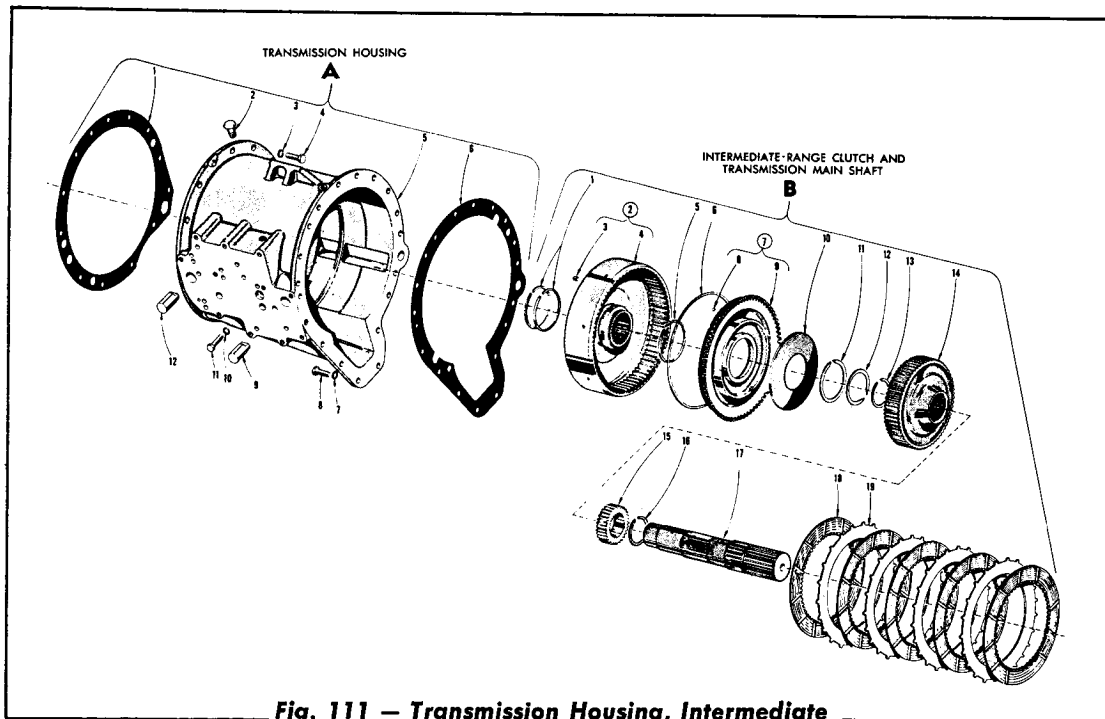
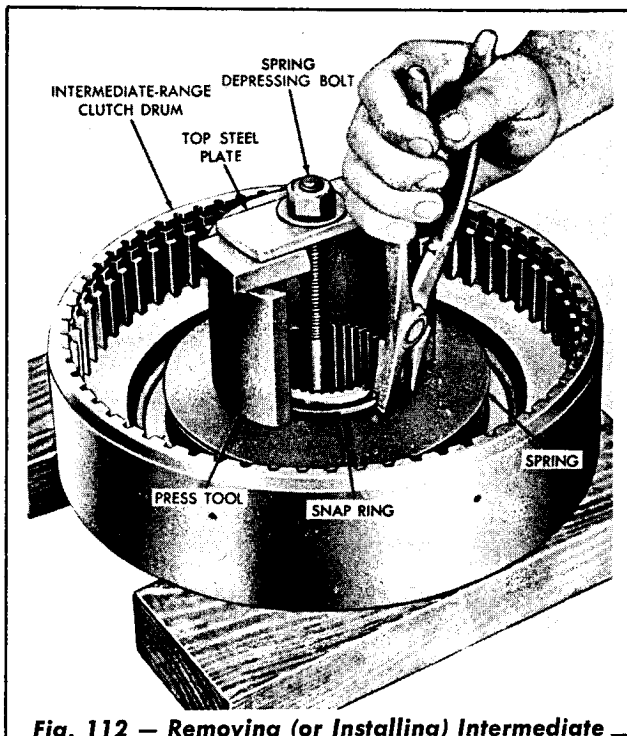

Fig. 111 — Transmission Housing, Intermediate Range Clutch, and Transmission Main Shaft — Legend
Fig. 112 — Removing (or Installing) Intermediate Range Clutch Snap Ring
| 24 | Bushing — Clearance with Transmission Main Shaft — | 0.010 in. Maximum. (See Item 17, Fig. 111) |
All items, except 1 through 11, Fig. 111, are removed in Par. B, in this Topic.
2. Intermediate Range Clutch and Transmission Main Shaft, Disassembly (Fig. 111)
- a. Remove the two hook type seal rings (1) from the intermediate clutch drum (4).
- b. Place the intermediate range clutch drum assembly on wooden blocks (Fig. 112). Place a steel plate, similar to the one shown in Fig. 112, under the clutch drum. This plate, and the one shown in Fig. 112, must have a $\frac{1}{2}$ " hole drilled through the center for the spring depressing capscrew. Place a press tool on the spring (Fig. 112). Install a capscrew and nut through the bottom steel plate (not shown), the press tool, and the top steel plate. Tighten the nut to depress the spring (Fig. 112).
Refer to Fig. 111 for wear limits.
4. Intermediate Range Clutch and Transmission Main Shaft, Assembly (Fig. 111)
- c. Install the press tool (refer to Step 2 in the disassembly procedures) and install the snap ring (Fig. 112).
- d. Install the two hook type seal rings (1) onto the intermediate range clutch drum.